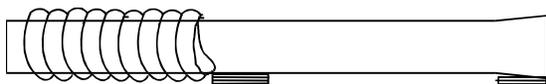

Figure 1
3. Slide the sleeving onto the spigot end and bunch up behind spigot timber (Figure 1) taking care not to damage the sleeving on the end of the pipe.